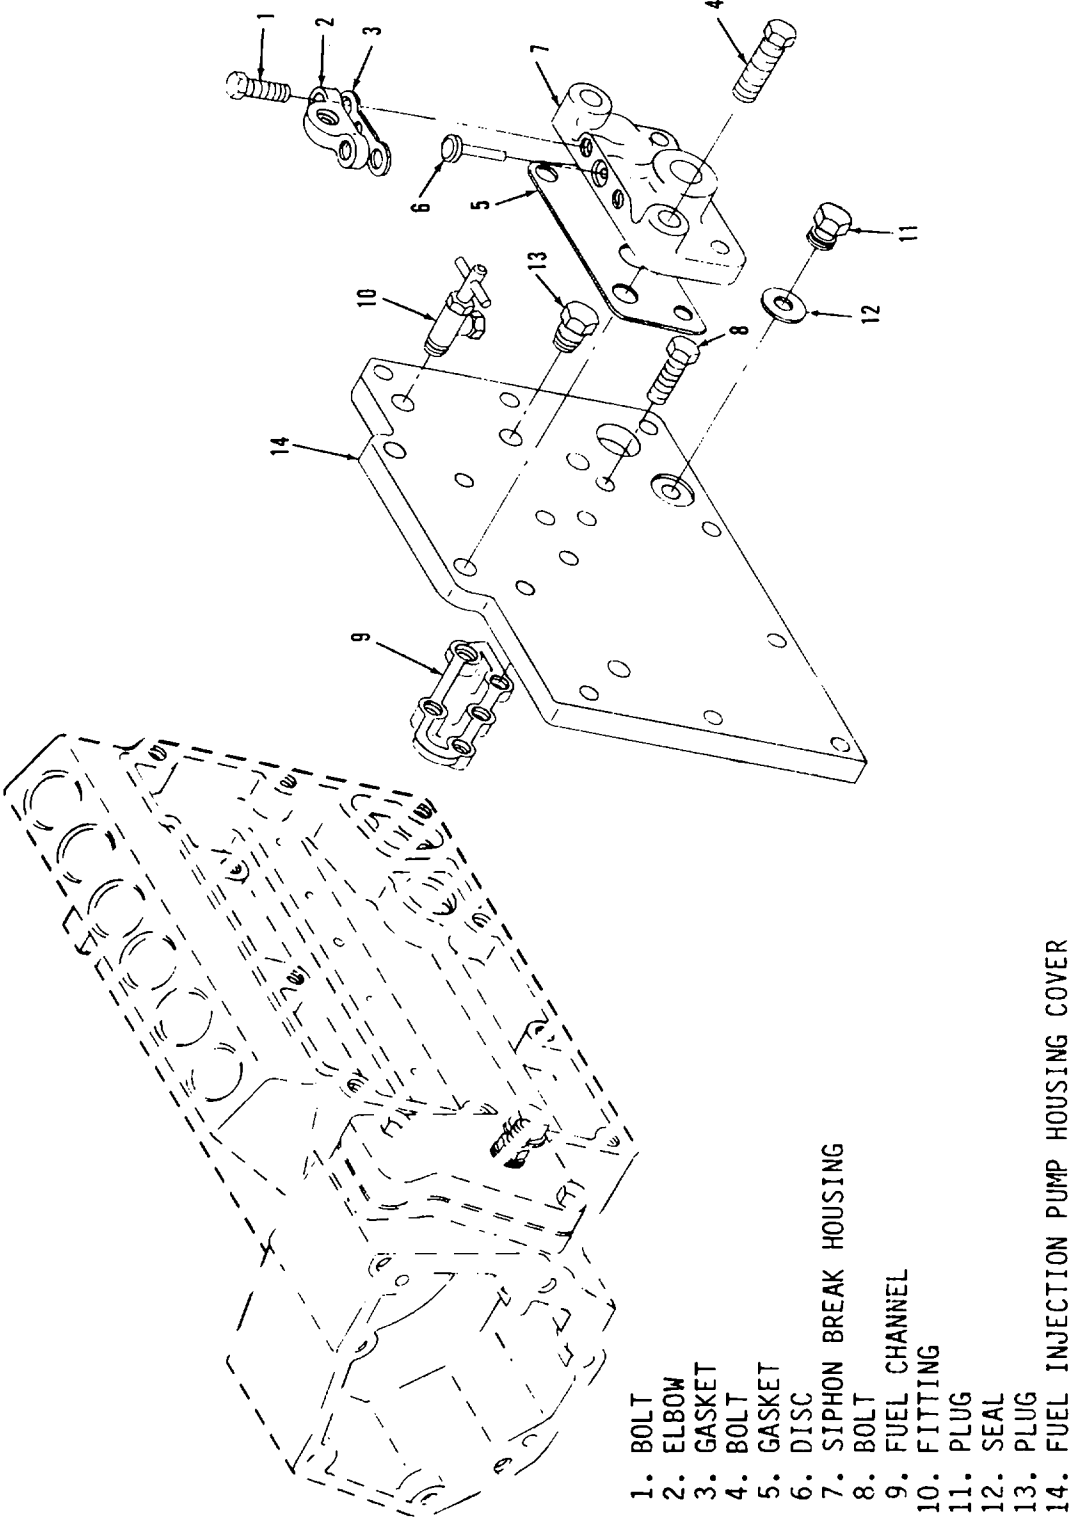
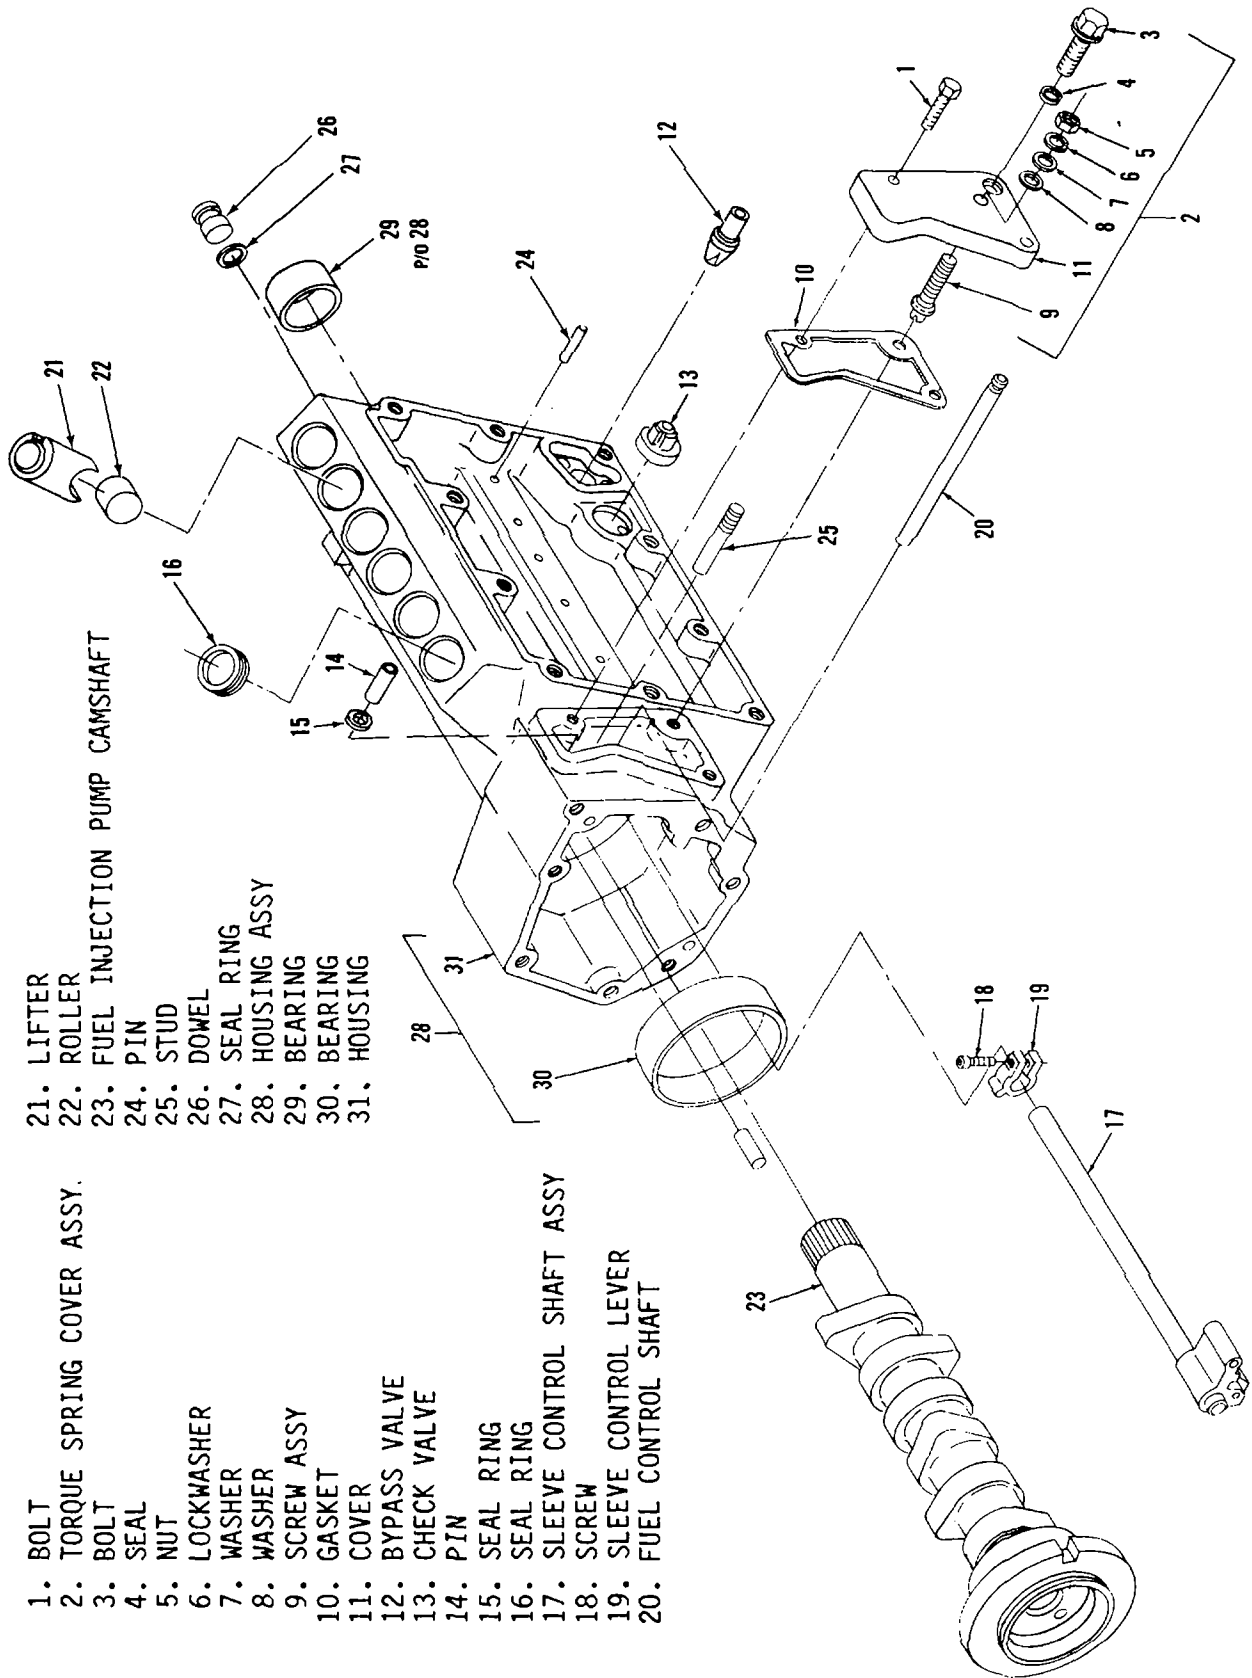

Figure 7-6. Fuel Injection Pump Housing Cover, Disassembly and Assembly
Figure 7-7. Fuel Injection Pump Housing, Disassembly and Assembly
d. Disassemble cover assembly (9, figure 7-4) as follows (see figure 7-6):
(1) Remove bolts (1), elbow (2), gasket (3), and gasket (5).
(2) Remove bolts (4) which secure the siphon break housing (7). Remove the gasket (5) from the housing (7).
(3) Remove bolts (8) to remove fuel channel (9).
(4) Remove fitting (10), plug (11), seal (12), and plug (13) from the fuel injection pump housing cover (14).
e. Refer to figure 7-7 and remove bolts (1) to remove torque spring cover assembly (2).
f. Remove bolt (3) and seal (4).
g. Remove nut (5), lockwasher (6), washers (7 and 8), screw assembly (9), and gasket (10) from torque spring cover (11).
h. Remove bypass valve (12) and check valve (13).
i. Remove pin (14) and seal rings (15 and 16).
j. Remove shaft (20).
k. Loosen screws (18) to free the levers (19) from the sleeve control shaft assembly (17). Remove sleeve control shaft assembly (17).
l. Remove screws (18) and levers (19).
m. Remove lifters (21) and rollers (22). Tag all lifters and rollers to ensure correct reassembly.
n. Slide fuel injection pump camshaft (23) from housing assembly (28).
o. Remove pin (24) and stud (25) from housing assembly (28).
- e. Install rollers (22) and lifters (21) into respective bores in housing assembly (28). Ensure that grooves in lifters align with pins (24) in housing assembly (28). Support camshaft (23) to prevent damage to pins (24) and bearings (29 and 30).
- f. Put sleeve control shaft assembly (17) into housing assembly (28). Position levers (19) on shaft (17) and secure with screws (18). Push sleeve control shaft assembly (17) into position.
- g. Install shaft (20). Torque screws (18) to 2 +/-0.16 foot-pounds (2.70 +/-0.22 Newton-meters).
- h. Install seal rings (16 and 15) and pin (14).
- i. Install check valve (13) and bypass valve (12).
- j. Install screw assembly (9) into torque spring cover (11) and secure using washers (7 and 8), lockwasher (6), and nut (5).
- k. Install seal (4) and bolt (3) into torque spring cover (11).
- l. Install torque spring cover assembly (2) and gasket (10) using bolts (1).
- m. Assemble cover assembly as follows (see figure 7-6):
- (1) Install plug (13), seal (12), plug (11), and fitting (10) onto fuel injection pump housing cover (14).
- (2) Install fuel channel (9) using bolts (8).
- (3) Install gasket (5) onto siphon break housing (7). Attach housing (7) to cover (14) using bolts (4).
- (4) Install disc (6), gasket (3), and elbow (2) using bolts (1).
- n. Adjust sleeve control shaft assembly (17, figure 7-7) in accordance with paragraph 7-16.